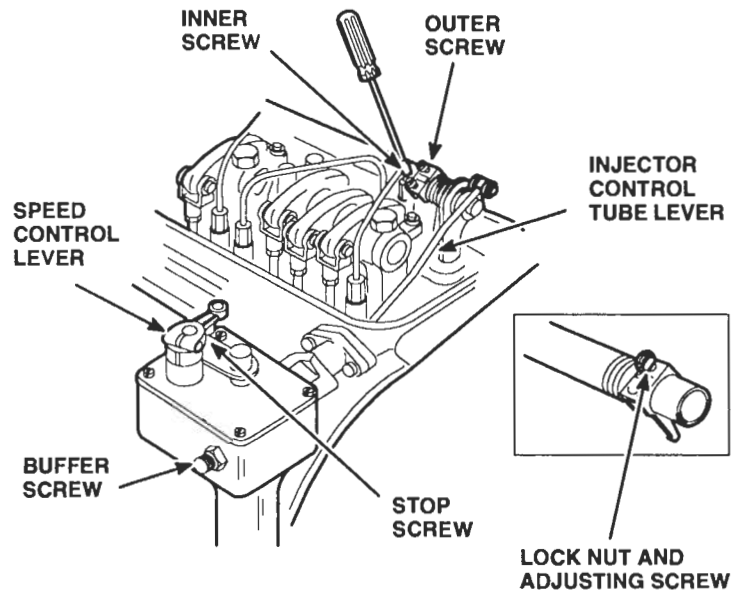

Figure 2. Positioning No. 1 Injector Rack Control Lever
5. Move the governor speed control lever to the maximum speed position (Figure 2.) Hold the lever in that position with light finger pressure and proceed as follows: